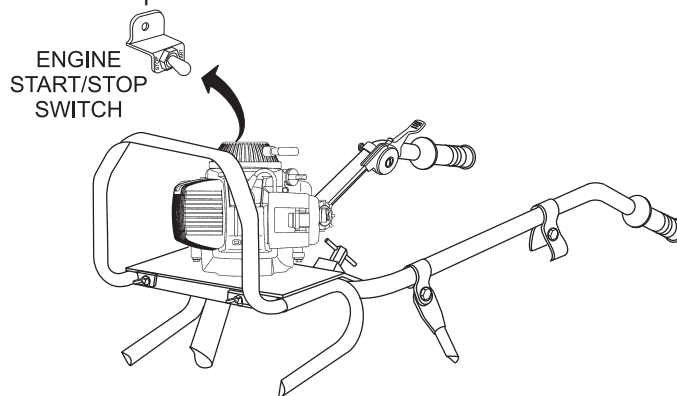

Figure 12. Engine START/STOP Switch
3. Set the engine START/STOP switch (Figure 12) to the **START** position.
3. Set the engine ON/OFF switch (Figure 12) to the **OFF** position.